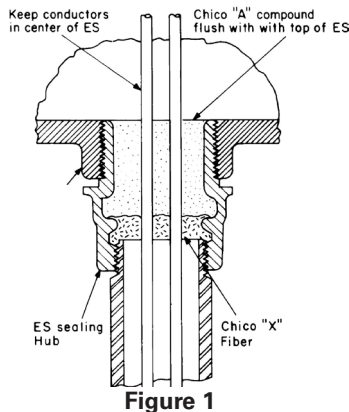

Figure 1
ES Sealing Hubs may be installed vertically in enclosure hubs as shown in Figure 1 when sealed using Chico® A Sealing Compound. Sealing hubs must engage at least five (5) full threads with the enclosure.
- With conductors separated from each other and generally near center of ES, build dam of Chico X fiber between conductors and internal wall of ES, as shown in Figure 1.
- Prepare Chico A Sealing Compound as instructed on its package and pour into ES Hub until flush with top, as shown in Figure 1.